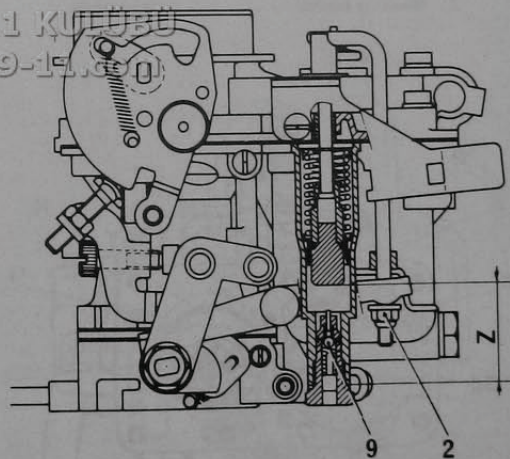

Fig. 3.13 Accelerator pump stroke – Zenith carburettor (Sec 17)
- 15 With the choke flap open and the throttle valve fully closed, measure the depth between the delivery valve locating face and the bottom of the piston (Fig. 3.13).